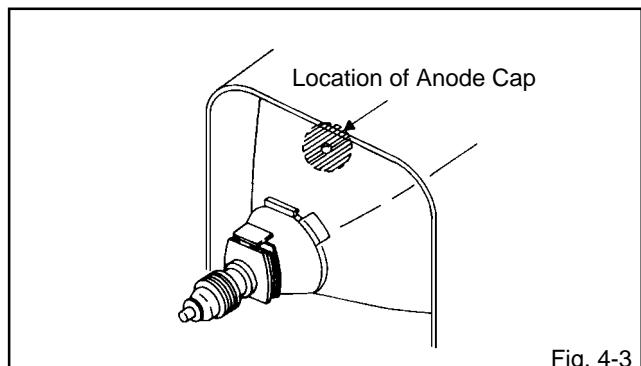

Fig. 4-3
1. Clean the spot where the cap was located with a small amount of alcohol. (**Refer to Fig. 4-3.**)